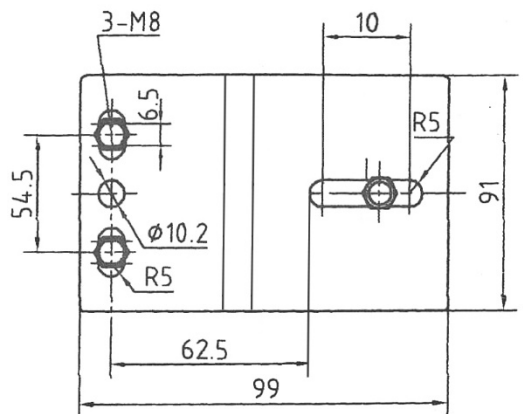

Fig. 1: H-600 Winch Mounting Instruction
2. Installing winch at a place should be safe enough to pass-by people, with at least 3 (three) x M8 mm bolts, nuts, flat washers and lock washers to securely fix the winch frame on the mounting structure together (see Fig. 1).